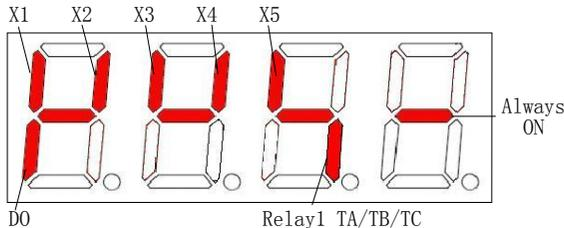

Figure 5-12-1 Terminal Status Indication
- ◆ The terminal status information includes the status of the multifunctional terminals X1~X5, two-way open collector output terminals D0, and output relay 1. The status of the function terminals is indicated by ON/OFF of the specified segment of an LED digital tube. If the digital tube segment is on, it indicates that the status of the corresponding terminal is in the effective status; if it is off, it indicates that the status is the ineffective status. There are four constantly-on segments with the digital tube to facilitate observation. It is showed as in Figure 5-12-1: